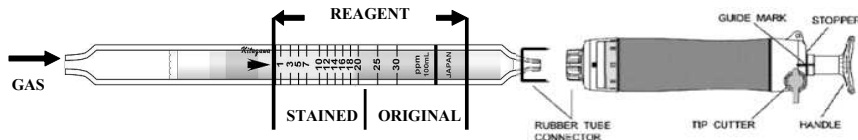

Fig.1
- ② Insert the detector tube into the aspirating pump securely as shown in Fig.1. (Arrow mark shall point to the pump.)
- ③ Align the guide marks on the shaft and stopper of the aspirating pump.
- ④ Pull the pump handle at a full stroke until it locks and wait for 3 minutes or until the completion of sampling is confirmed with the flow indicator of the pump. (See descriptions about the flow indicator in the instruction manual of the pump.)
- ⑤ On completion of sampling, read the scale at the maximum point of the stained layer.
- ① Temperature; Correct the tube reading by the following temperature correction table.